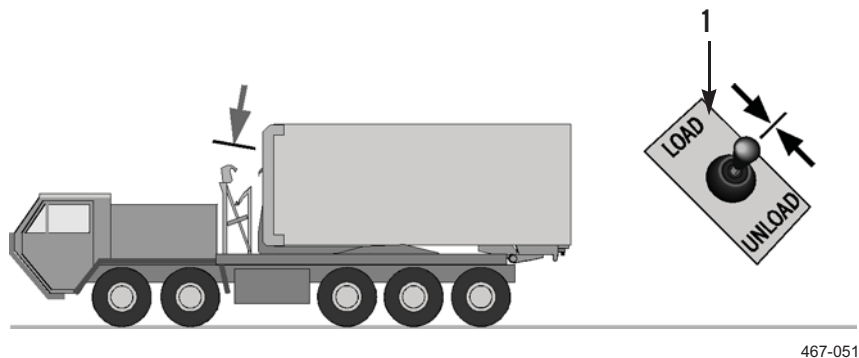

Figure 14. Hook Arm Stopped and Joystick Released.
7. As soon as hook arm stops moving, release joystick (Figure 14, Item 1) (PLS: TM 9-2320-364-14&, HEMTT: TM 9-2320-326-14&P).